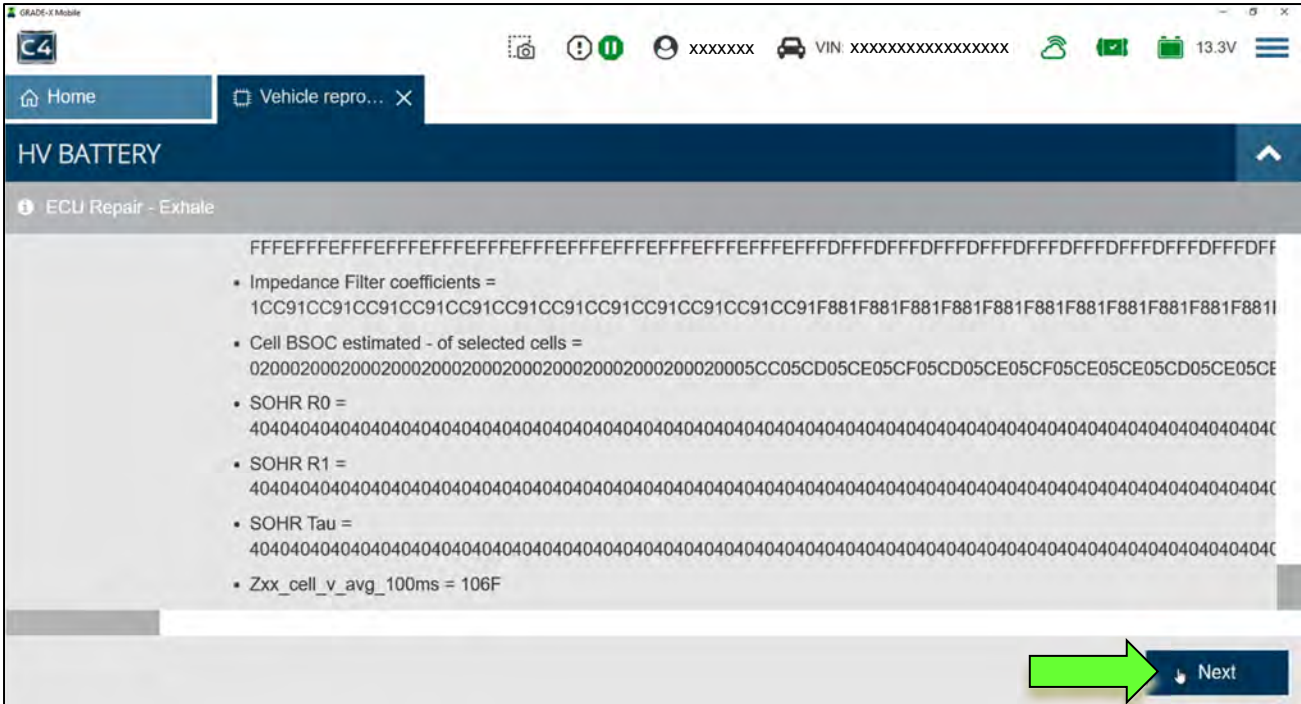

Figure 32
54. When the screen in Figure 32 is displayed, select **Next**.